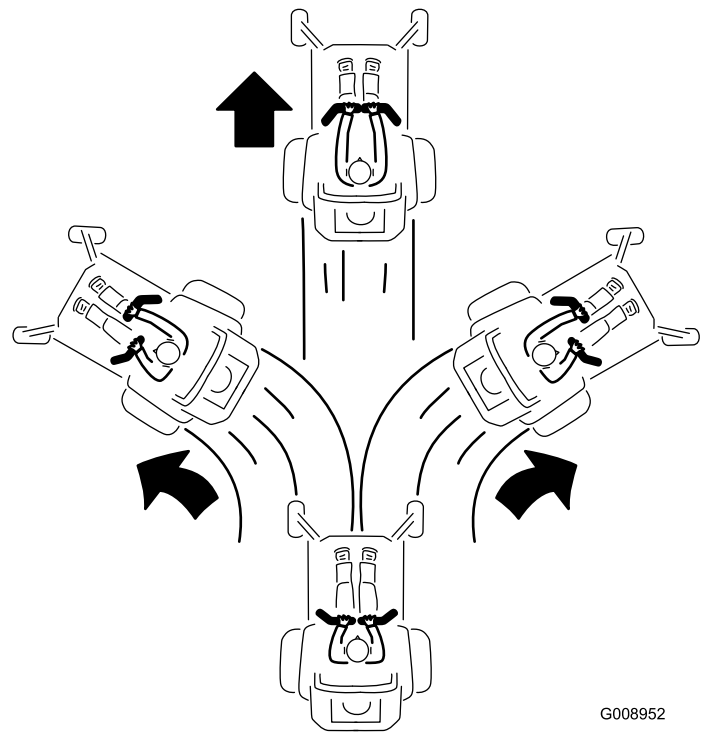

Figure 22
3. To go forward, slowly push the motion control levers forward (Figure 22).